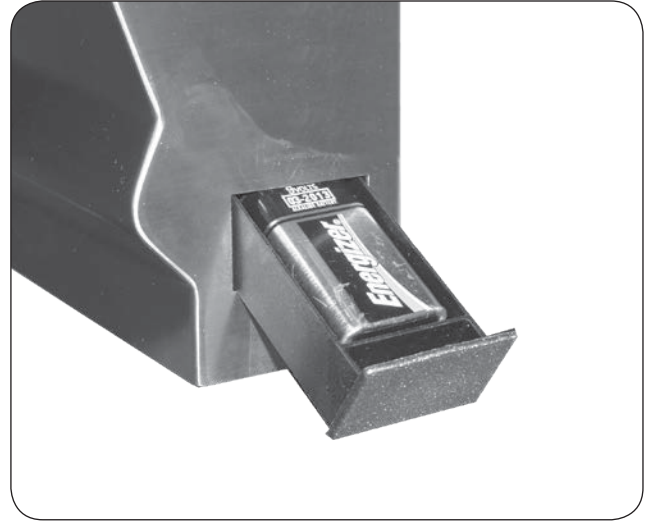

Fig. 27-1 Replace igniter battery
2. Disconnect the battery from the connector and replace it connecting the new battery and close the drawer (see Fig. 27-1).